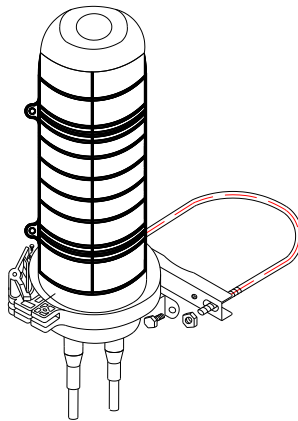

Figure 6
6.1 Aerial application: Fix metal hoop and transom to the pole. Please refer to figure 6